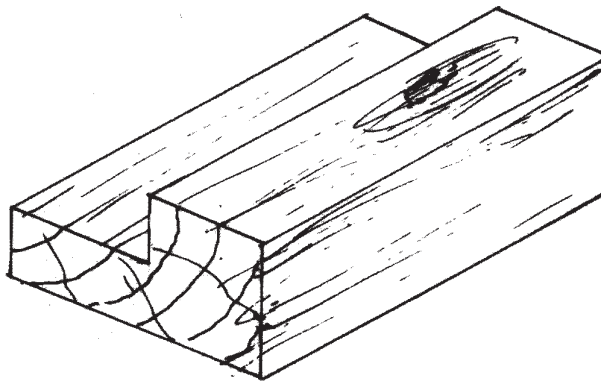

Figure 3
- (b) Figure 3 shows a wooden block with a rebate 45 mm width and 15 mm depth.